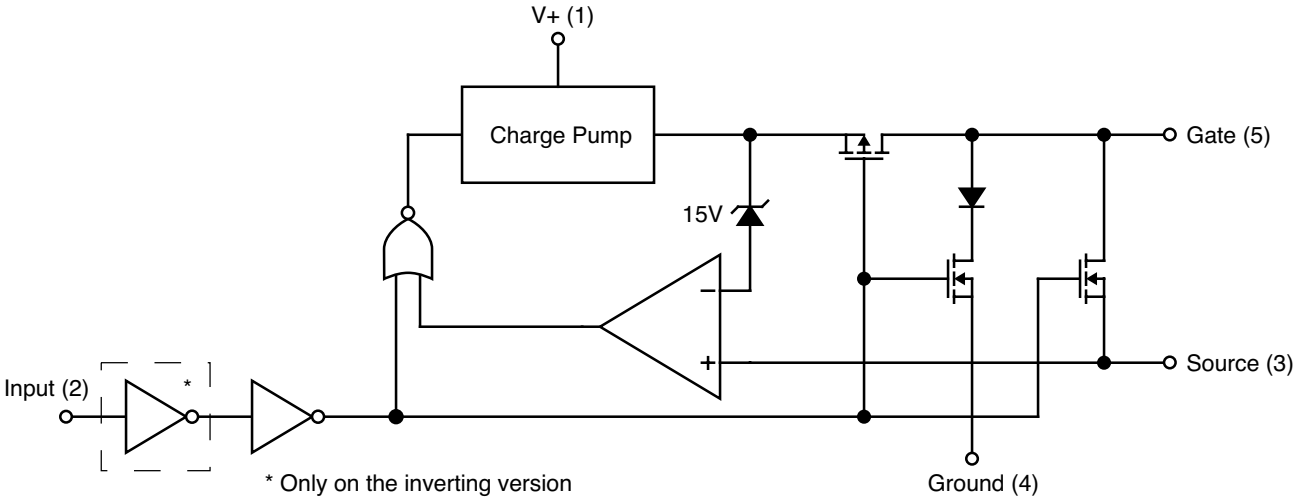

**Figure 1. 3V "Sleep-Mode" Switch with a Logic-Level MOSFET**
**High Side Driver** (Figure 1) The high side topology shown here is an implementation of a "sleep-mode" switch for a laptop or notebook computer which uses a logic level FET. A standard power FET can easily be substituted when supply voltages above 4V are required.